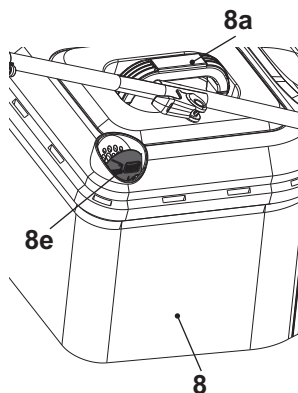

Fig. 13
1. When the hatch (8e) is opened the grass catcher has sufficient volume left to collect grass (Fig. 13).